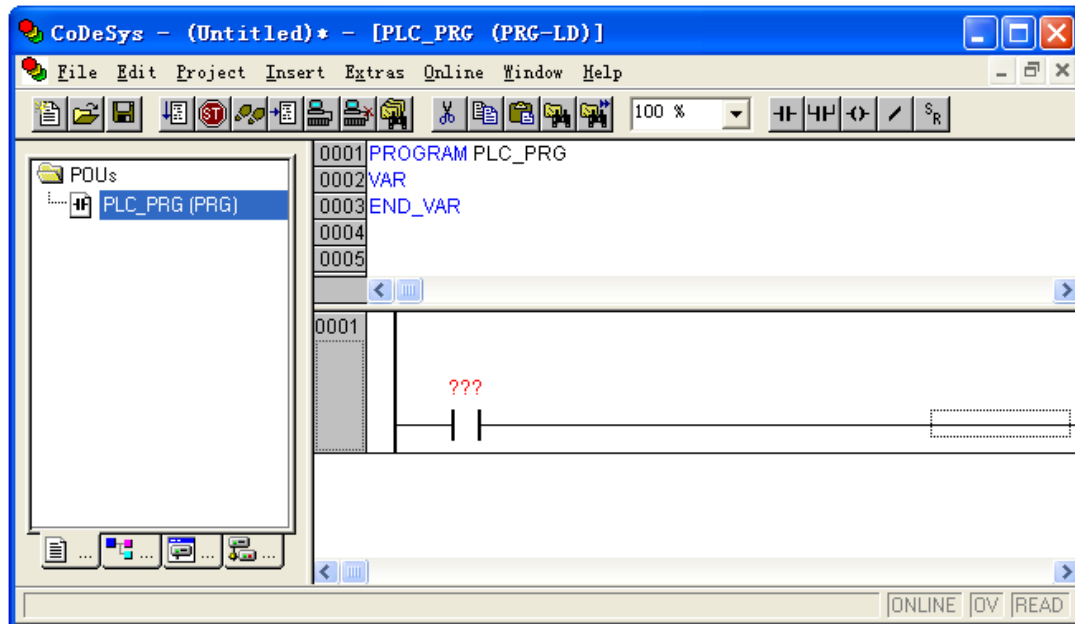

Figure 3-6-1 Programming Step (1)
- Click the “Contact” button “” on the tool bar, and then a contact “” will appear in the network 0001, as shown in the figure 3-6-1.